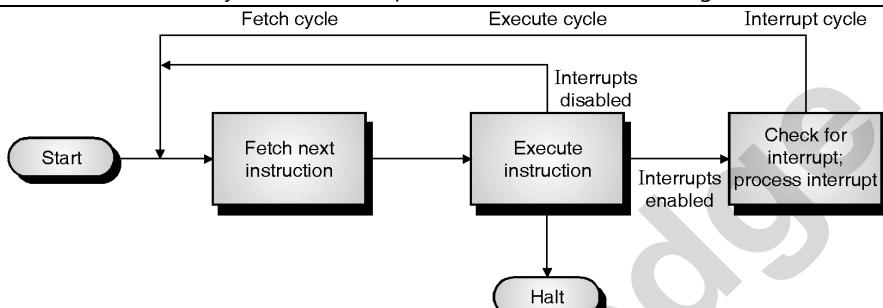

Fig. 9.4.2 : Complete basic instruction cycle
- Thus the complete basic instruction cycle with Interrupts can be as shown in the Fig. 9.4.2.
- You will notice in Fig. 9.4.2, the interrupts are checked for, after the execute cycle and processed if enabled and exist; else, it fetches the next instruction.